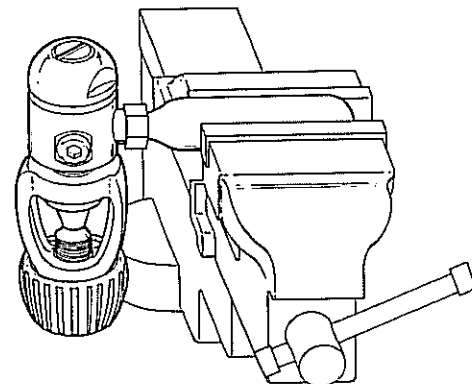

FIGURE 1
6. Screw an empty CO₂ cartridge clockwise into a low-pressure adapter (Item 52). Then screw the adapter and cartridge clockwise into one of the low-pressure ports on the first-stage body (Item 1). Mount the first-stage body in a bench vise, main-spring side facing upward, by means of the CO₂ cartridge. (See Figure 1).